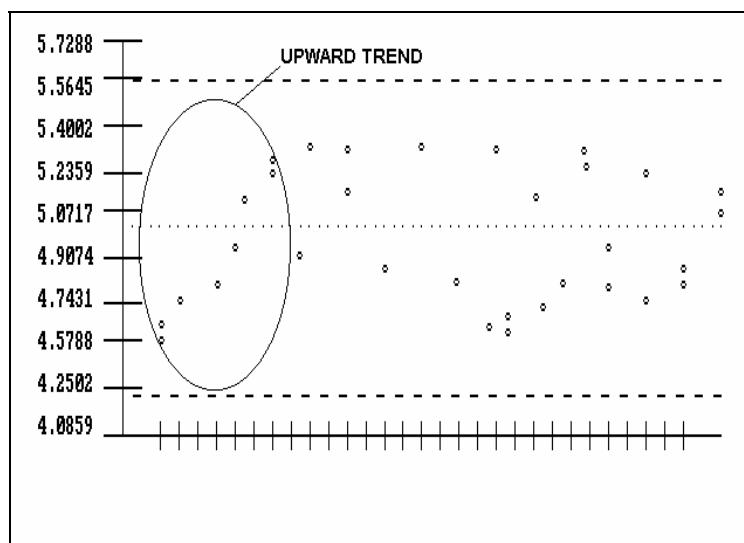

Figure B-4 Upward Or Downward Trend
3. There is a trend, downward or upward, of 7 or more successive points as Figure B-4.